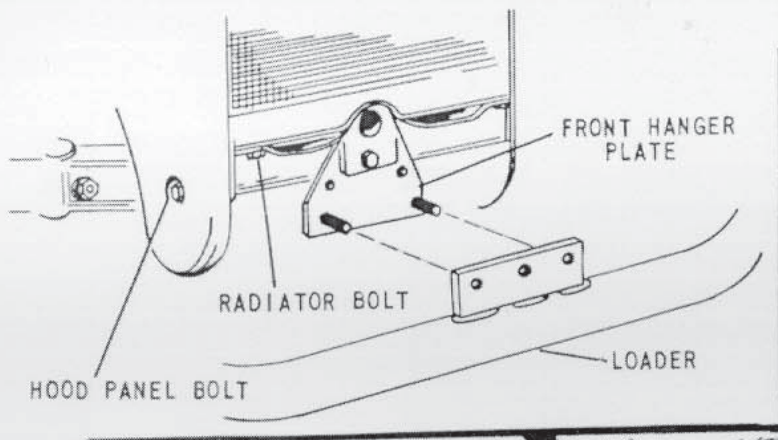

Figure 6 Loader Installation For Ford Models 9N, 2N and Ford-Ferguson Tractors
9. Remove bolts (Figure 6) which secure front axle support assembly to tractor so radiator can be raised.
4. Install front hanger plate to front of axle housing assembly and secure with capscrew (Figure 6).
- Position loader frame by lining up holes in front hanger plate to respective bracket on loader main frame. Bolt loosely (Figures 6 and 7).